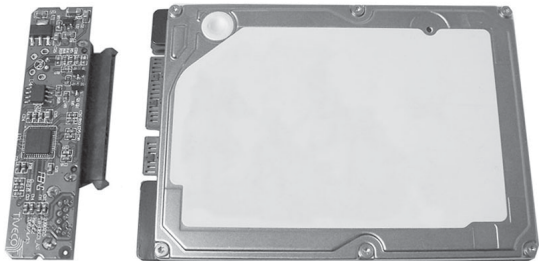
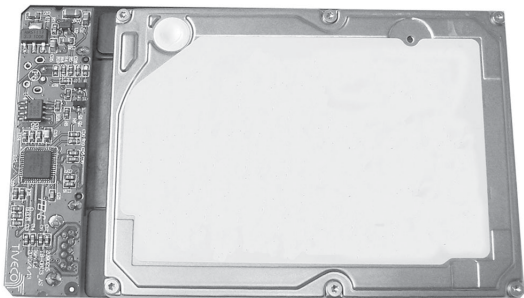

Figure 5
Figure 6
2. Take off the PCB and connect it to the hard disk drive, see **Figure 5** and **Figure 6**.